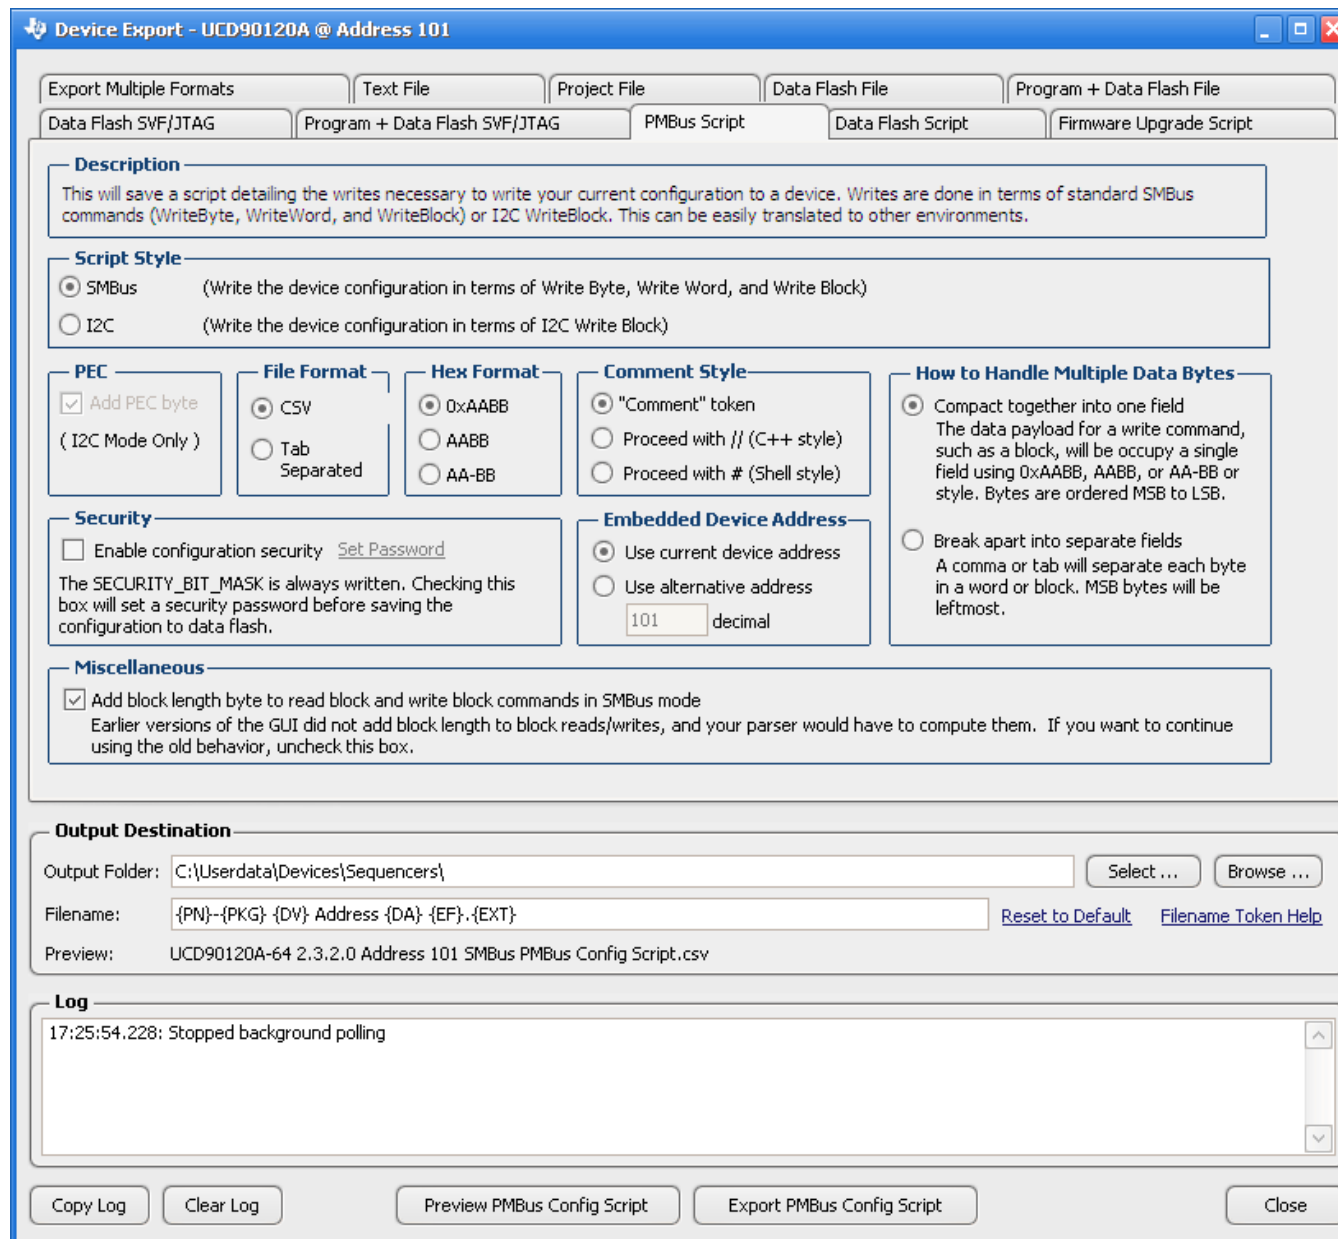

Figure 30. Fusion GUI PMBus Configuration Script Export Tool
2. The *Fusion GUI* (图 30) can create a PMBus or I²C command script file that can be used by the I²C master to configure the device. This method may cause unexpected behaviors on GPIO pins which can disable rails that provide power to device. It is not recommended for production programming.